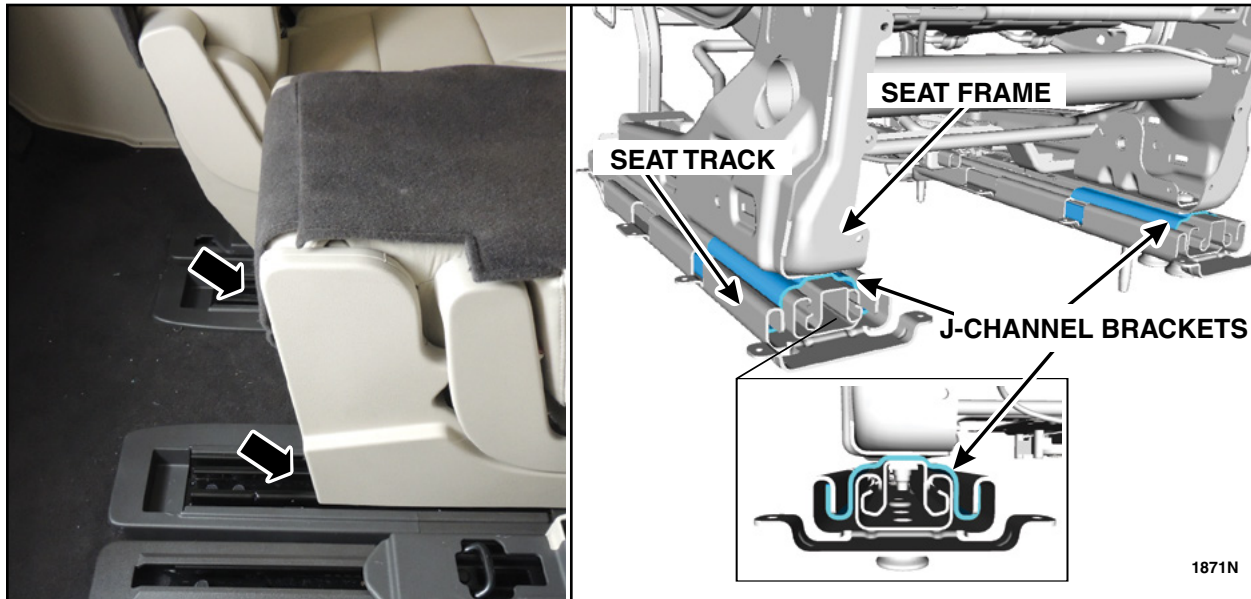

FIGURE 1
2. Inspect the rearward end of both seat tracks for the presence of J-channel brackets. See Figure 1.